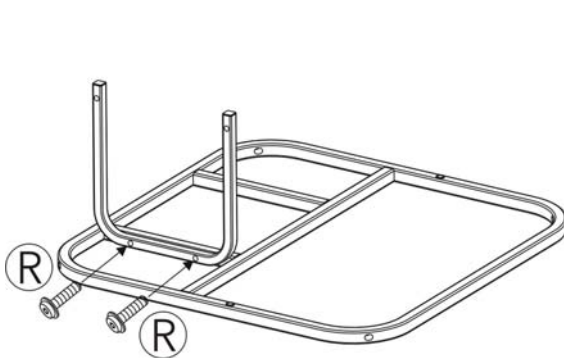
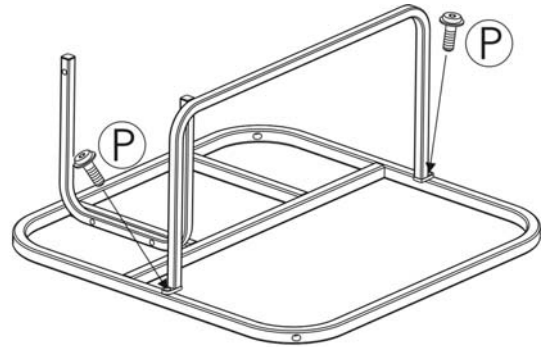

Figure 2a
Figure 2b
2. Attach a LP support bracket to the LP support frame by using two 1/4"x 30 mm bolts as shown in Figure 2a. Guide the bolts through the holes in the LP support bracket, into the pre-drilled holes in the LP support frame. Attach the middle support to the LP support frame by using two 1/4"x 20 mm screw in Figure 2b. Guide the bolts through the holes in the middle support, into the pre-drilled holes in the LP support frame.